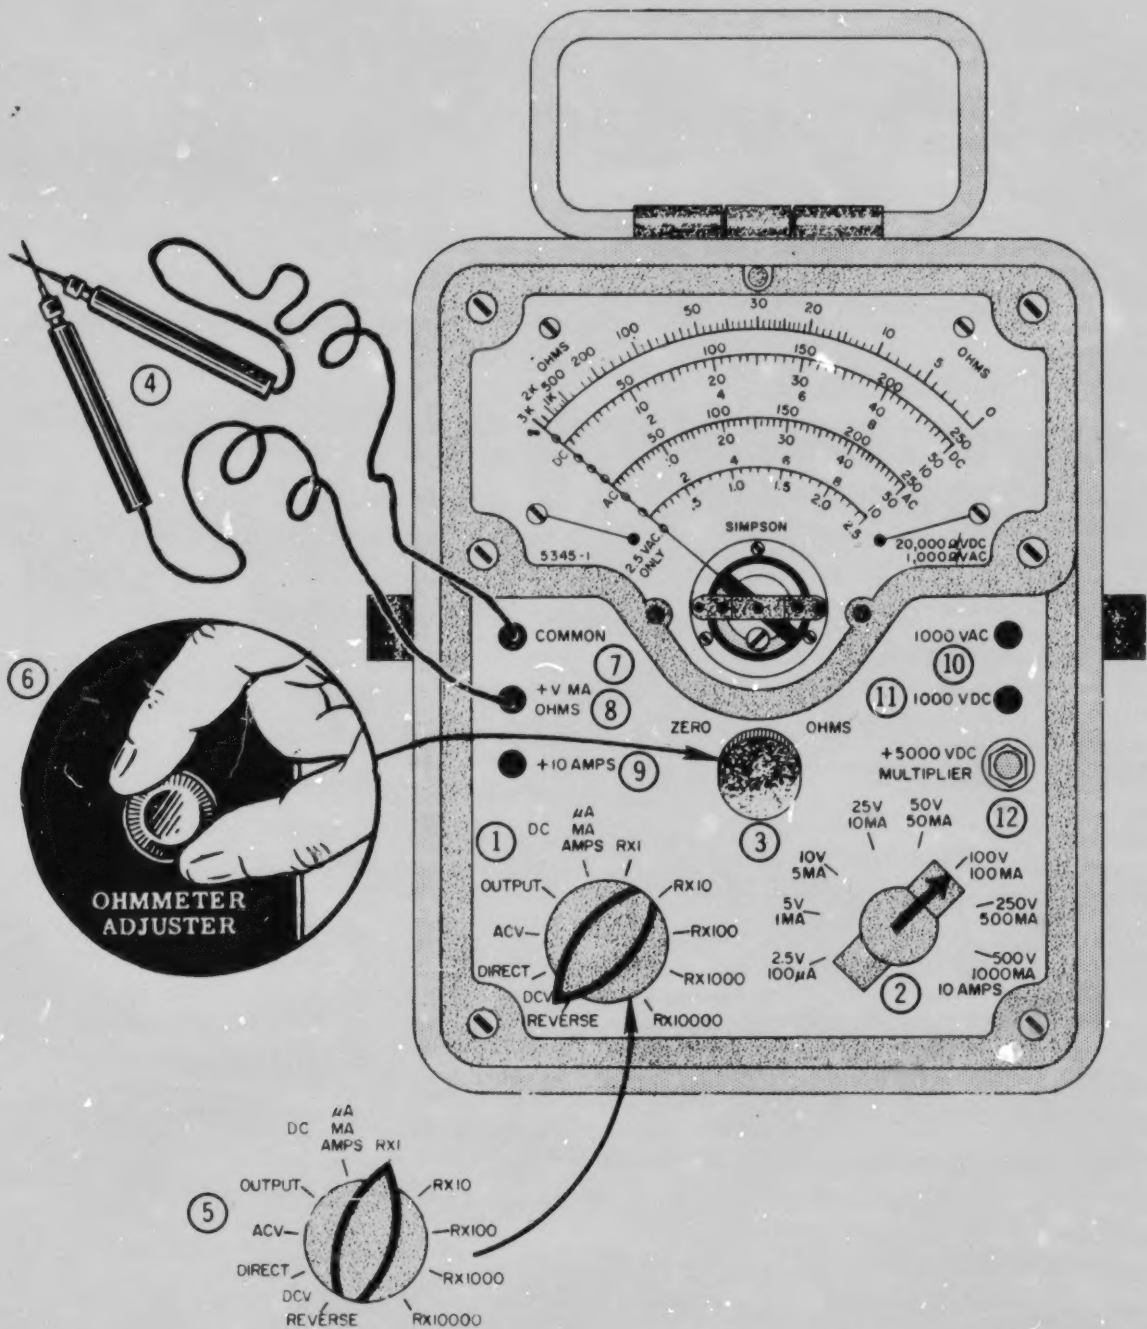
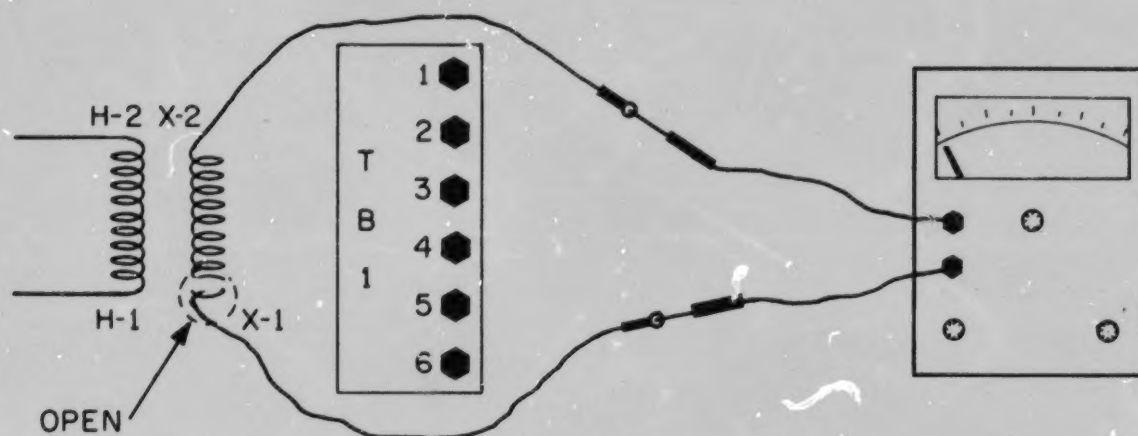

Figure 7-6. — AN/PSM-4A multimeter (front view).
Figure 7-9.—Checking transformer output.
Figure 7-6 shows the front view (face) of a multimeter, which contains all the controls necessary for operating the meter. There are three major controls which function as follows.
A 10-position rotary switch, located in the lower left hand corner of the meter, is used both as a function switch and a resistance range selector, (① in fig. 7-6). Five of these positions set up ohmmeter (resistance) checks. In any of these positions the switch also acts as a range selector.
The zero-ohms control knob (③) is used to adjust meter circuit sensitivity to compensate for battery aging in the multimeter's circuits. It also is used to set the pointer (needle) at full scale deflection to the right, to indicate zero ohms when the function switch is set at any resistance range position, and test leads are shorted together, (④, ⑤, and ⑥ in fig. 7-6).
Beginning with the bottom scale (2.5VAC only) (fig. 7-6), you can see the scale is marked 0, .5, 1.0, 1.5, 2.0, and 2.5. Each graduation between these numbers is equivalent to .1 volt. Only a.c.
The simplest way to check the output of TPZ-1 is to take a voltage reading at terminal points P1-1-1 and P1-1-6 (fig. 7-8A). Set up a multimeter for a-c voltage readings. Position the eight position switch ② in figure 7-6 at 500 V and switch ① at ACV. The purpose of setting switch ② at 500 V is a safety precaution taken which will prevent damage to the meter if a high voltage is present across terminals P1-1-1 and P1-1-6 due to component failure. Since there is 220 VAC present at the primary of TPZ-1, then there is also a possibility of having 220 on the secondary of the transformer.
removed the fuses from the circuit, these tests are taken at P1-3-1 and P1-3-6. After ensuring that the circuit is deenergized, disconnect wires X-1 and X-2 on transformer TPZ-1 from terminals P1-1-1 and P1-1-6 (fig. 7-9).
4, 5, and 6 in figure 7-6. Apply the test leads to the disconnected leads of TPZ-1 as shown in figure 7-9. If the transformer secondary leads are open, the meter reading would remain at the left side of the meter (fig. 7-9). This indicates that there is no complete circuit through the secondary of TPZ-1, or an open circuit.